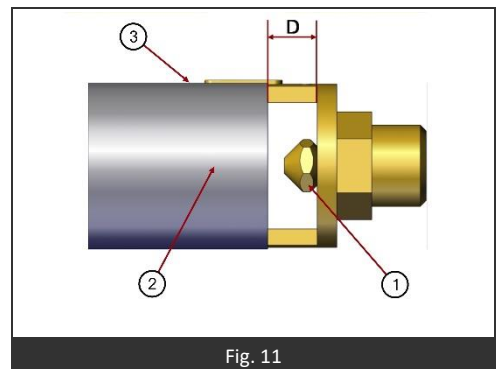

Fig. 11
- 2- Access the air sleeve (Fig. 11 – Item 2), unscrew it (Fig. 11 – Item 3) then slide it so that the injector on the mounting bracket can be accessed.
- 3- Unscrew the injector (Fig. 11 – Item 1), then replace it with the appropriate injector for the type of gas used (see adjustment tables above).